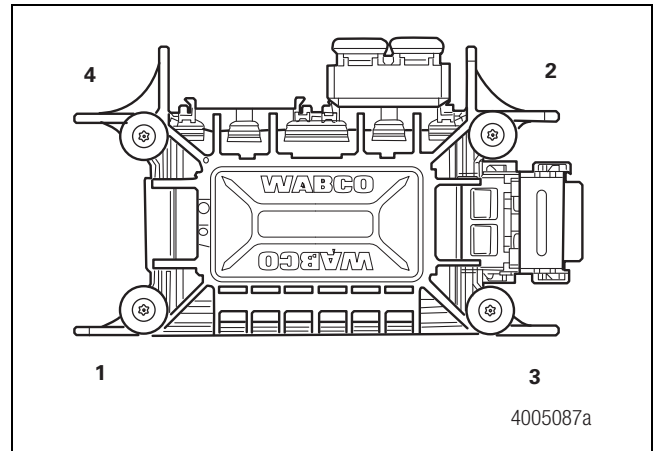

Figure 3
7. Use a Torx T30 bit (not included in the replacement kit) to tighten the four screws to 5 lb-ft (6 N•m) in the sequence shown in Figure 3.